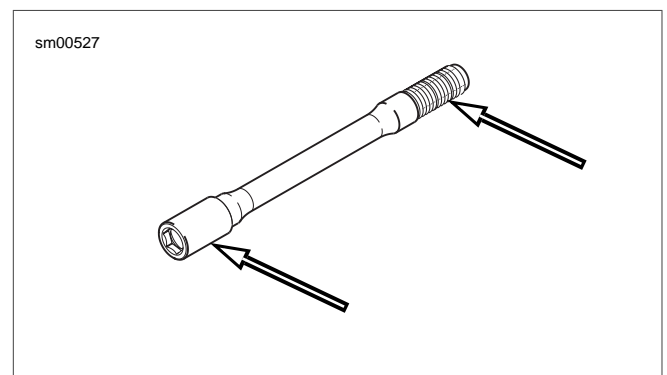

Figure 2-22. Anti-Seize Lubricant Location
- See Figure 2-22. Coat the axle with ANTI-SEIZE LUBRICANT.